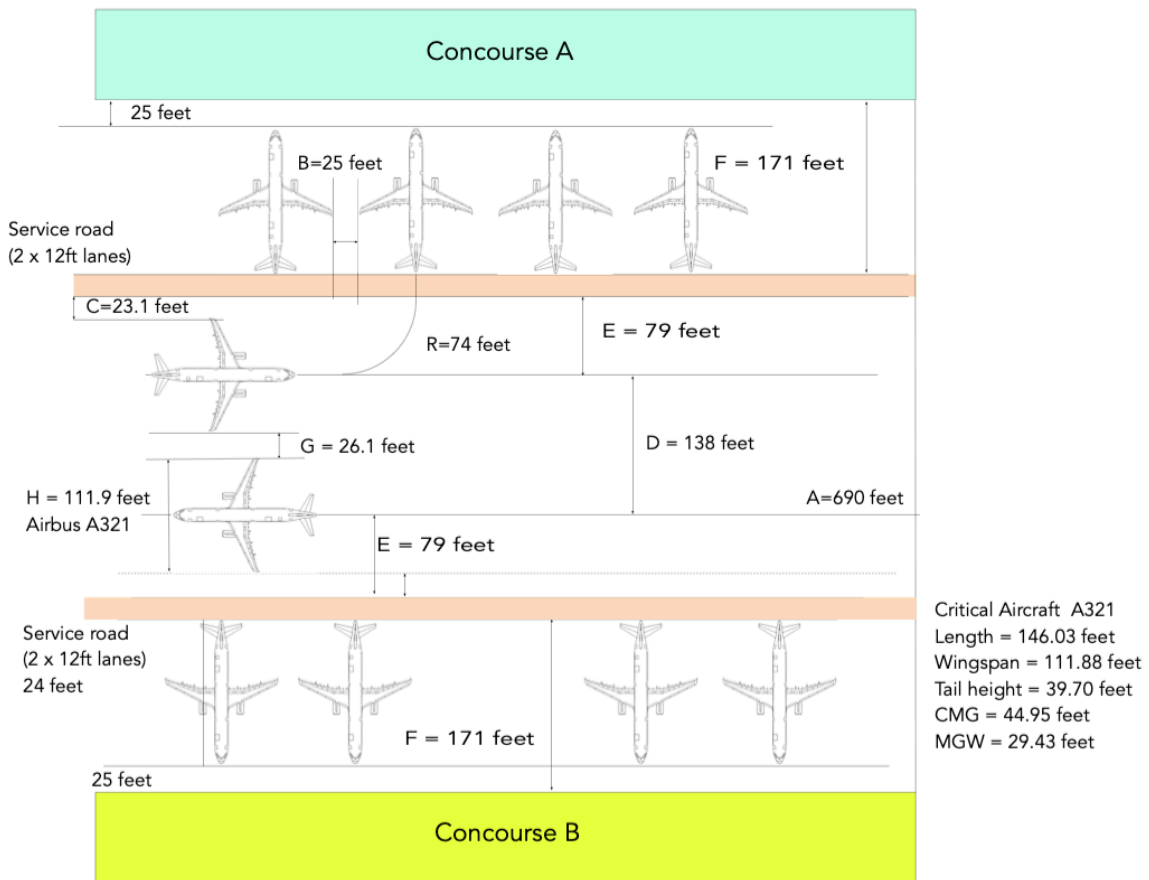

Figure 1. Airport Taxiway Configuration Solution for Problem 1.
A new airport is designed with two satellite terminal buildings as shown in Figure 1. The buildings are designed to accommodate aircraft up to the size of an Airbus A321neo and the standard Airbus A321.
a) Find the dimensions A through R in Figure 1. Make sure that your design allows pilots entering the gate position to maneuver with steering angles no more than 50 degrees. Assume the service roads have 12-foot wide lanes.
Table 1. Critical Dimensions for Figure 1.